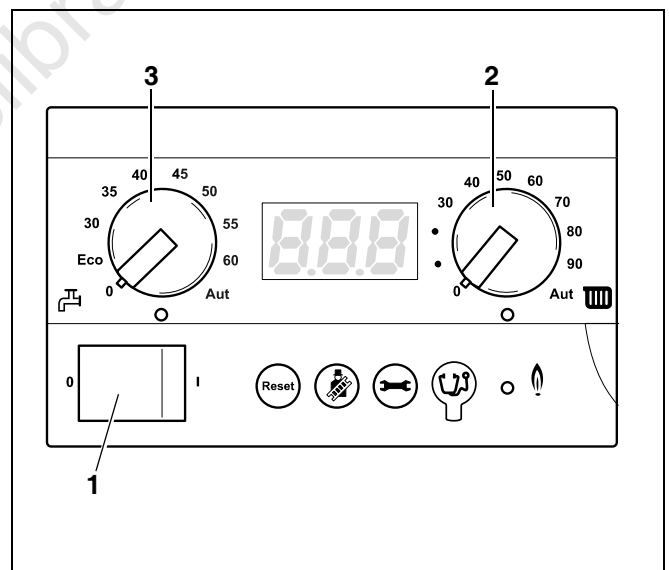

fig. 16 BC10 basic controller
- Turn both dials on the BC10 basic controller (fig. 16, **items 2 and 3**) to their required positions (see sections 5.2.1 and 5.2.2, from page 14).
- Switch on the mains switch (fig. 16, **item 1**) on the BC10 (position "1").
- Set the dial for the maximum CH (boiler) flow temperature (fig. 16, **item 2**) to set the required temperature according to table 3.